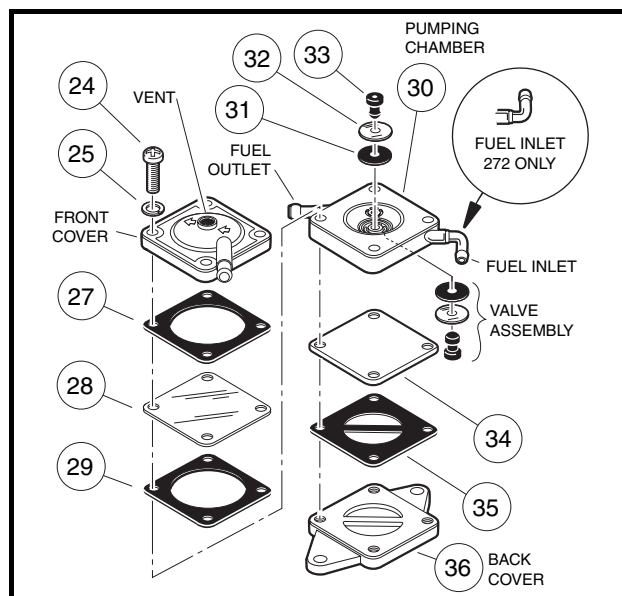
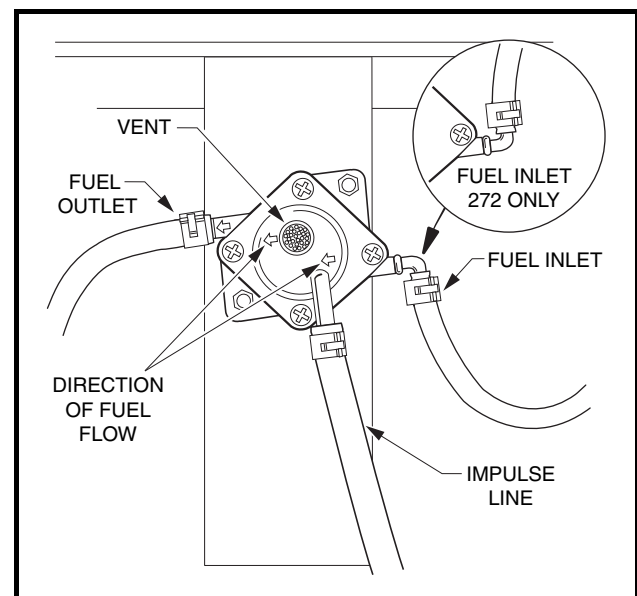

Figure 14-10 Fuel Pump
Figure 14-11 Fuel Pump Mount
1. Remove four screws (24) and lock washers (25) from front of the fuel pump (**Figure 14-10, Page 14-18**).
3. Note the orientations of the impulse gasket (27), the diaphragm (28) and the gasket (29), then remove them from the pump. **See following CAUTION.**
2. Inspect the valve assemblies (31, 32, and 33), gaskets and diaphragms for damage (**Figure 14-10, Page 14-18**).
3. If a valve assembly is damaged, the rubber retaining plug (33) and valve assembly must be replaced.
1. Install the fuel gasket (35) and diaphragm (34) on the back cover (36) (**Figure 14-10, Page 14-18**).
2. Install the valve assembly in the pumping chamber (30). **See following CAUTION.**
3. Install the pumping chamber (30) on top of the fuel diaphragm (34). Be sure the fuel inlet and the fuel outlet align with the arrows on the front of the front cover (**Figure 14-10, Page 14-18**).
4. Install the gasket (29), clear impulse diaphragm (28) and the paper impulse gasket (27) to the pumping chamber (30).
5. Install the front cover and then the lock washers (25) and four screws (24) on the assembly. Be sure the arrows on the front cover point from the fuel inlet to the fuel outlet (**Figure 14-11, Page 14-18**). Tighten the screws to 26 in-lb (3.0 N·m).